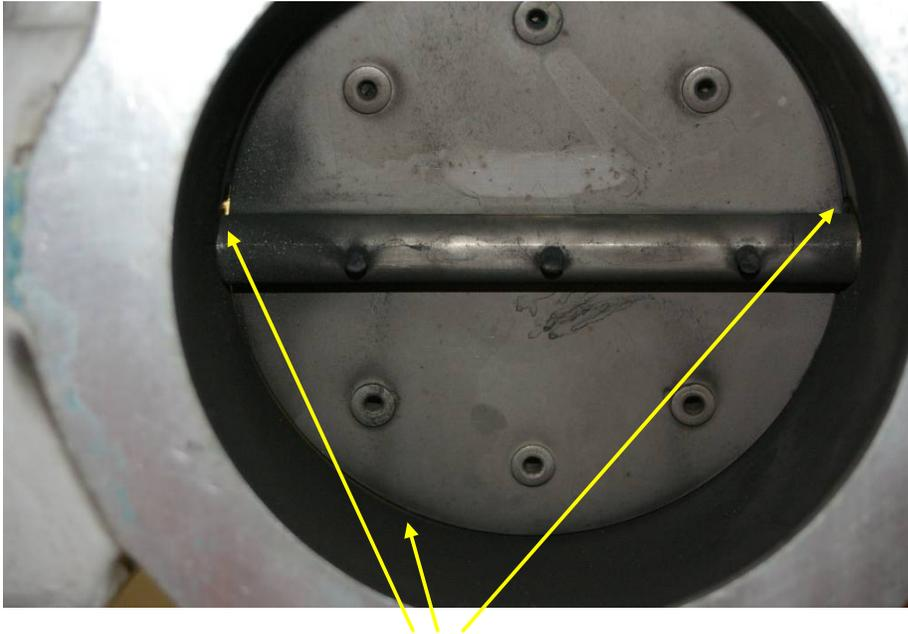

Figure 1 - photo showing gaps around butterfly valve plate & at shaft ends.
1. Turning the scrubber water make up tank isolation valve to the test position. Figures 1 & 2, next,